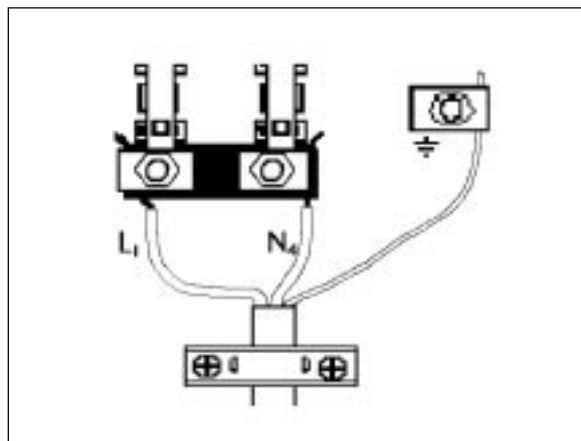

fig 2
- Clamp bare wires into the relevant terminal (fig 2) and check they are held by tugging each one in turn.